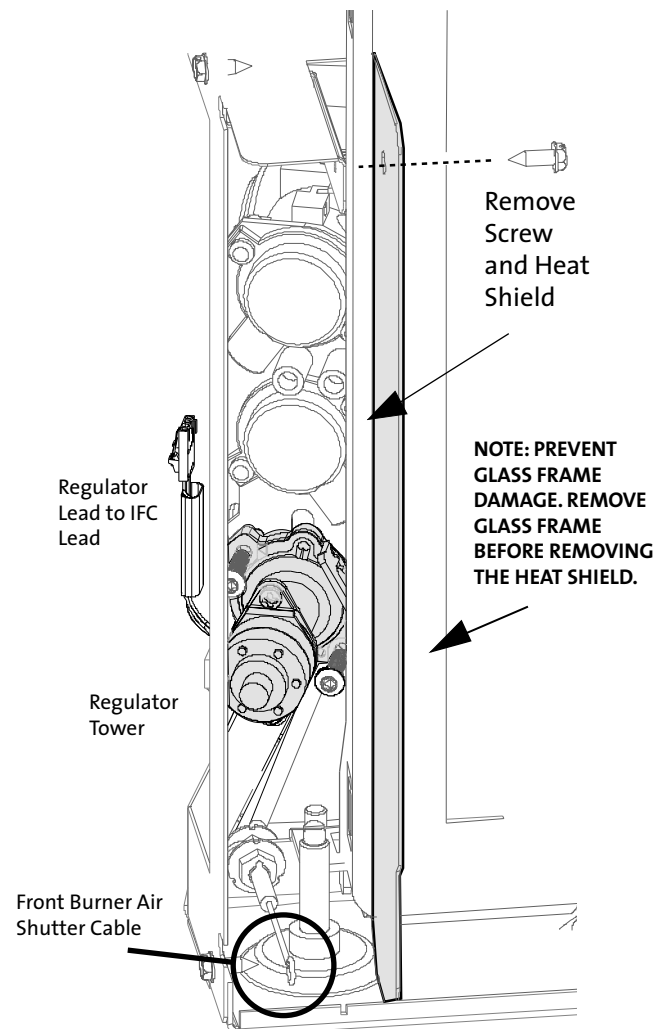

Figure 16. Replace the Regulator Tower.
3. **RETRACT THE AIR SHUTTERS:** Two Air Shutter cables are located at the floor of each side compartment. Push each cable fully in. This action retracts the shutters and allows the burner to be disengaged from the firebox. See figs. 16 and 88.
7. **CHANGE THE VARIABLE REGULATOR TOWER** on the gas control valve. See fig. 16.